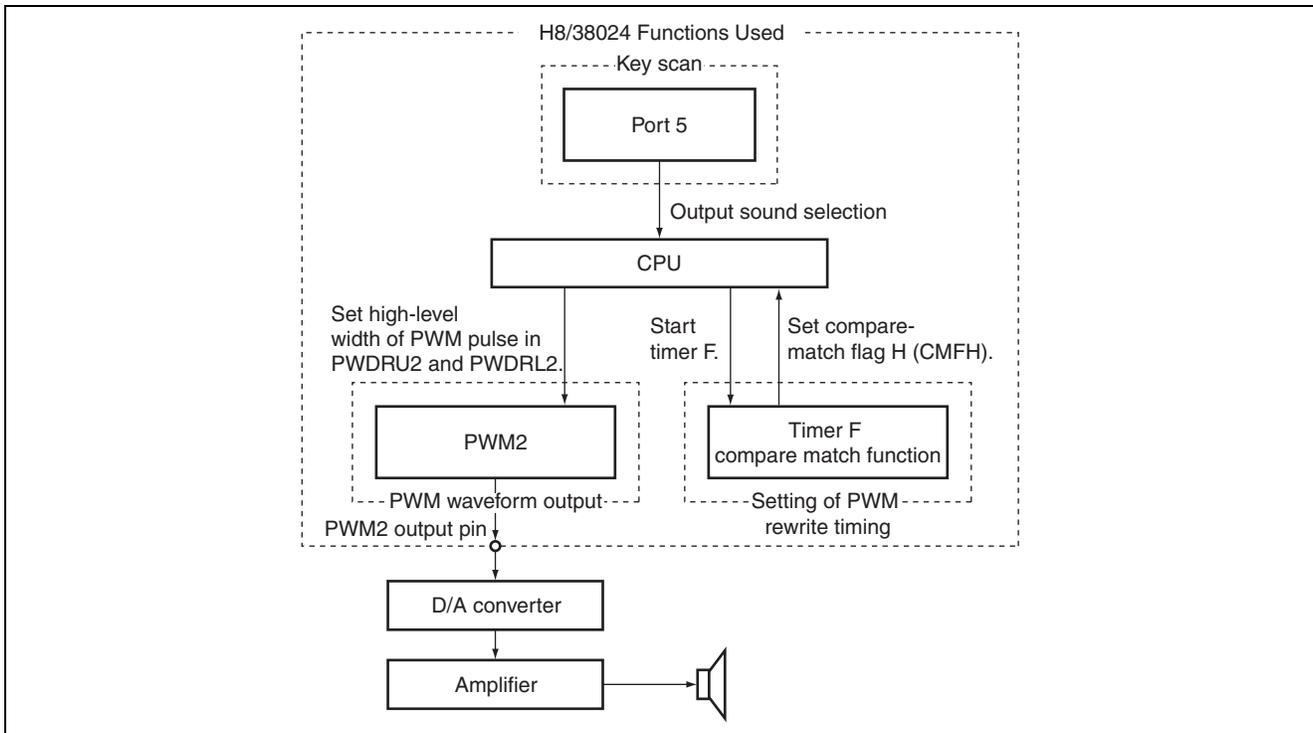

Figure 3.1 H8/38024 Functions Used
1. The following explains the H8/38024's functions used to output beep sounds. Figure 3.1 shows the block diagram of the functions involved in this sample task.